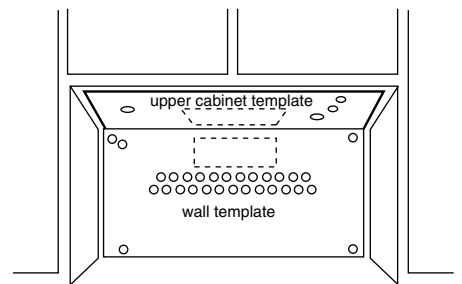

Figure 19
4. Securely tape or tack the wall template to the wall. See Figure 19.
5. Measure the bottom of the upper cabinet frame. Trim the edges "A" "B" and "C" on the upper cabinet template so that the template will fit on the bottom of the upper cabinet. If upper cabinet has a recessed frame, trim template so that it fits inside the recessed area. Align the centerline of the upper cabinet template with the centerline of the wall template; then securely tape or tack the upper cabinet template in place. See Figure 19.